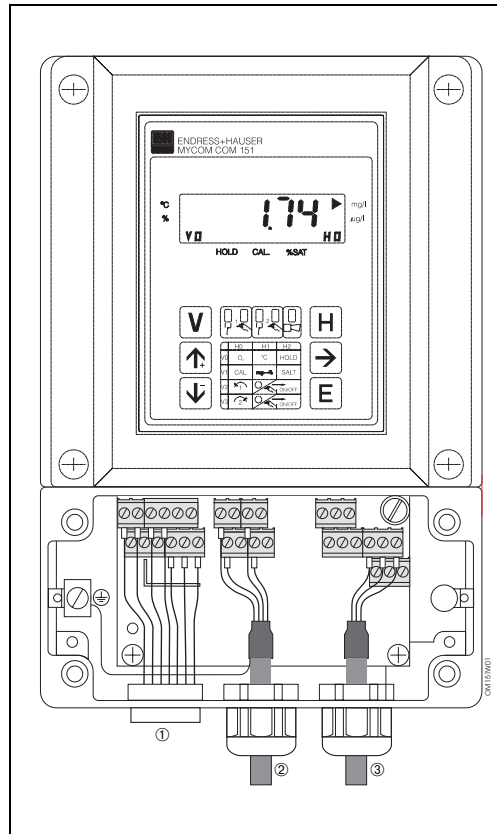

Fig. 4.10: Mycom COM 151 with connections in separate terminal connection compartment
The mains and the signal lines are connected to the terminal strip in the separate connection compartment (see fig. 4.10). A plug-in connector is provided for connecting the O₂ sensor.
- Introduce the connecting cables through the Pg cable glands (see fig. 4.10).